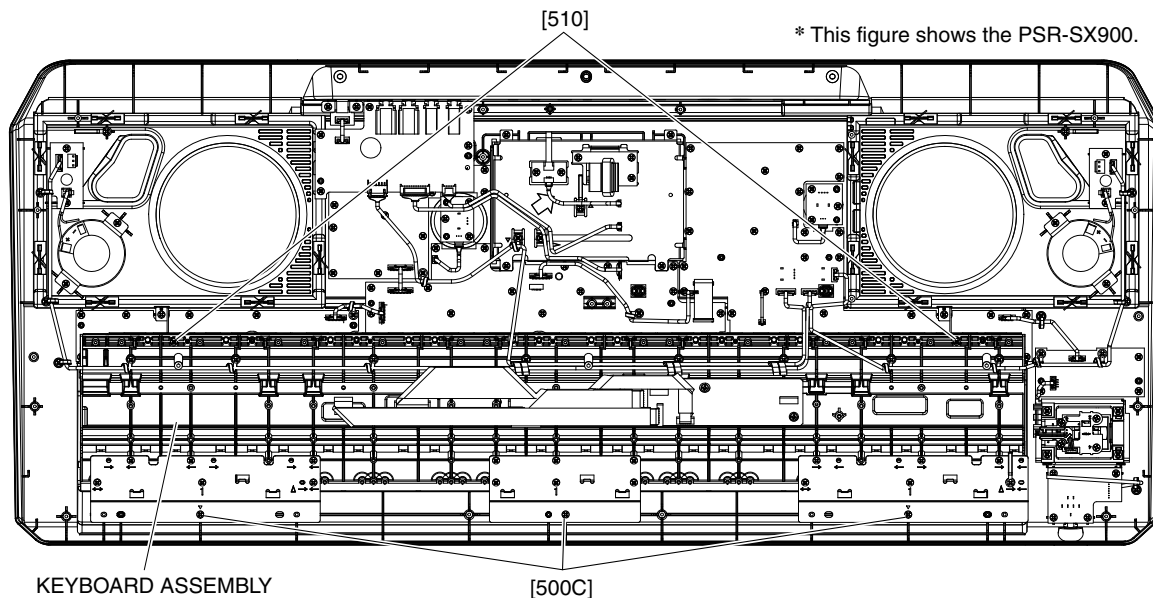

Fig. 5
- 7-2. Remove the two (2) screws marked [510] and the three (3) screws marked [500C]. The keyboard assembly can then be removed. (Fig. 5)